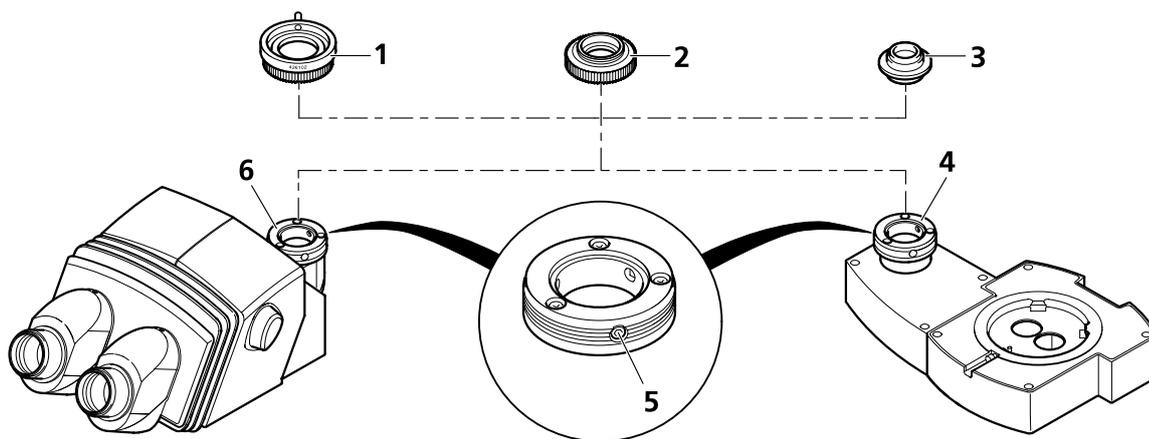

Fig. 18 Using camera adapters
- Attach the camera adapter "60N" (Fig. 18/1; 2) to the camera.
Please note: The three grub screws (SW 3) (Fig. 18/5) at the camera port must project neither into the external thread nor into the inner aperture.
- Put the pre-assembled unit onto the camera port (Fig. 18/4 or 6), align it and fasten the sleeve nut of the adapter (Fig. 18/1 or 2) hand-tight.
- Attach the camera adapter "60" (Fig. 18/3) to the camera.
- Put the pre-assembled unit onto the camera port (Fig. 18/4 or 6). Take care that the three grub screws (Fig. 18/5) do not project too far into the inner aperture; unscrew them slightly, if necessary.
- Turn the three grub screws (SW 3) on the tube (Fig. 18/5) counterclockwise until the adapter is firmly seated.